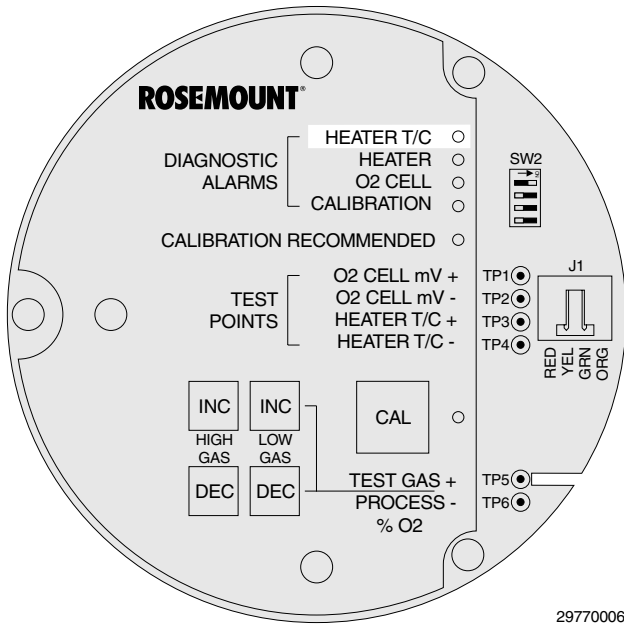

Figure 5-4. Fault 4, A/D Comm Error
d. **Fault 4, A/D Comm Error.** The HEATER T/C LED flashes four times, pauses for three seconds, and repeats (Figure 5-4).